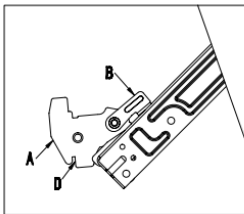

FIG 3
- Open the door completely and lift the 2 levers “B” (fig 3).
- Now, shutting the door slightly, you can lift it out by pulling out the hooks “A” as shown in figure 3.